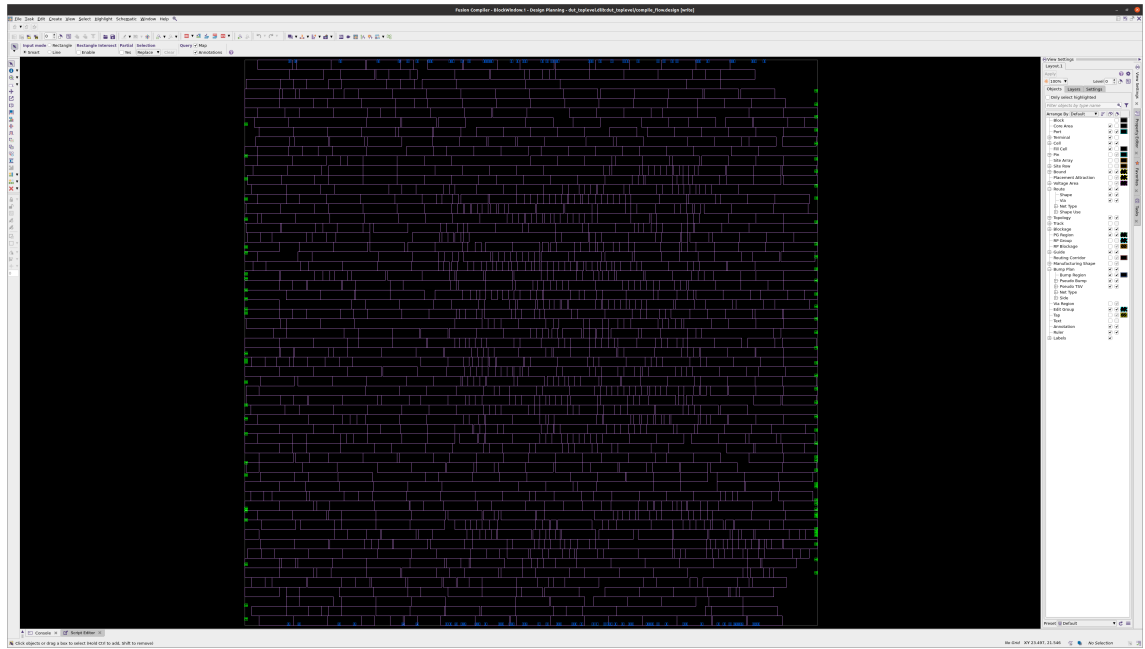

Figure 2.4: Layout after `final_place`.
6. `final_place` moves lots of cells, but still keeps them in rows and groups of cells visible after `initial_opto` stay in similar places. (Fig. 2.4)